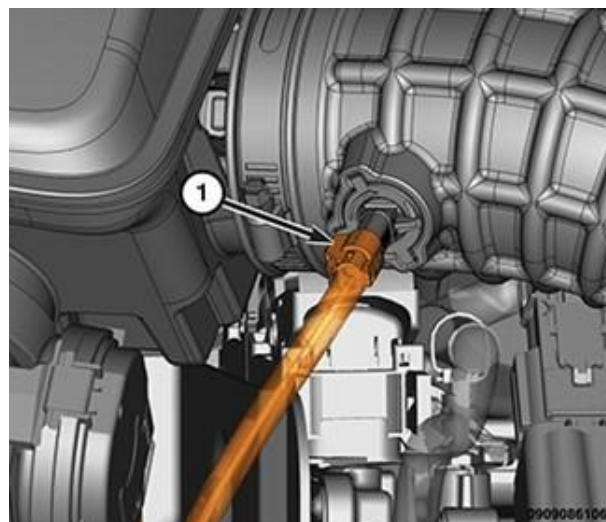

Figure 9 – Inlet Air Temperature Sensor
17. Disconnect the wire harness connector (1) from the Inlet Air Temperature (IAT) sensor (Figure 9).